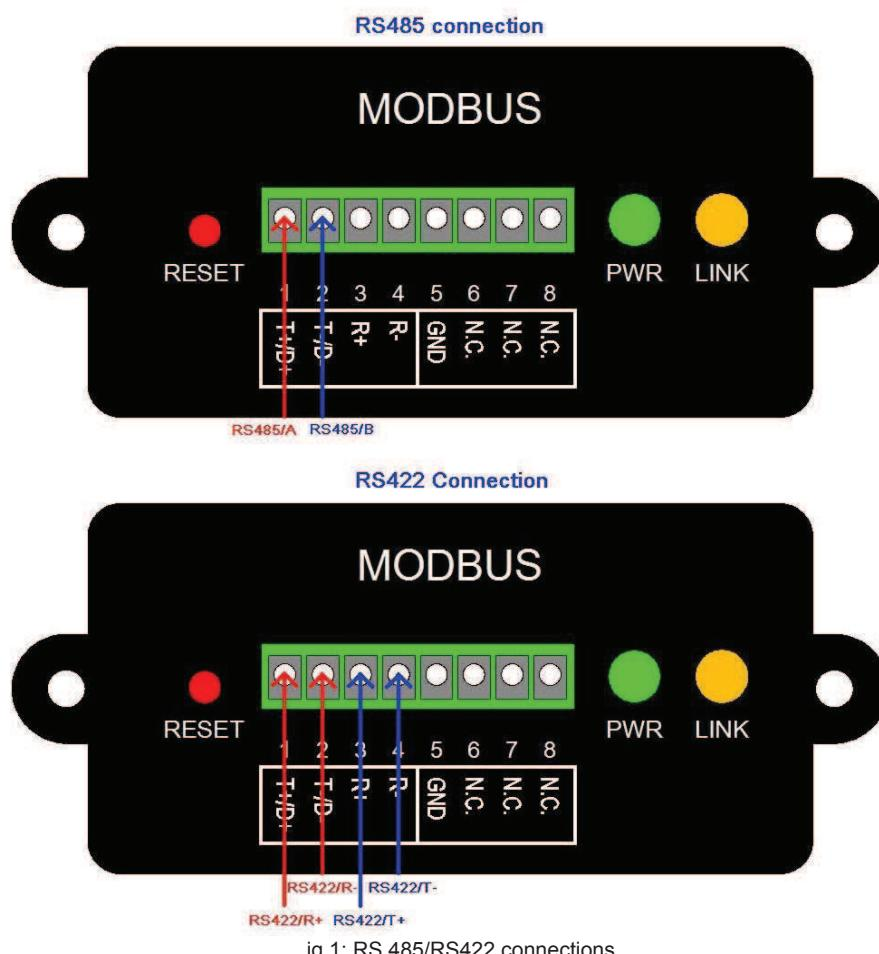

Fig.1: RS 485/RS422 connections
- ◆ Connect the RS485/RS422 line to the connector on front panel, as show on Fig 1. It is suggested to use twisted cable section 0.22mm², (AWG24) ^{*1}.